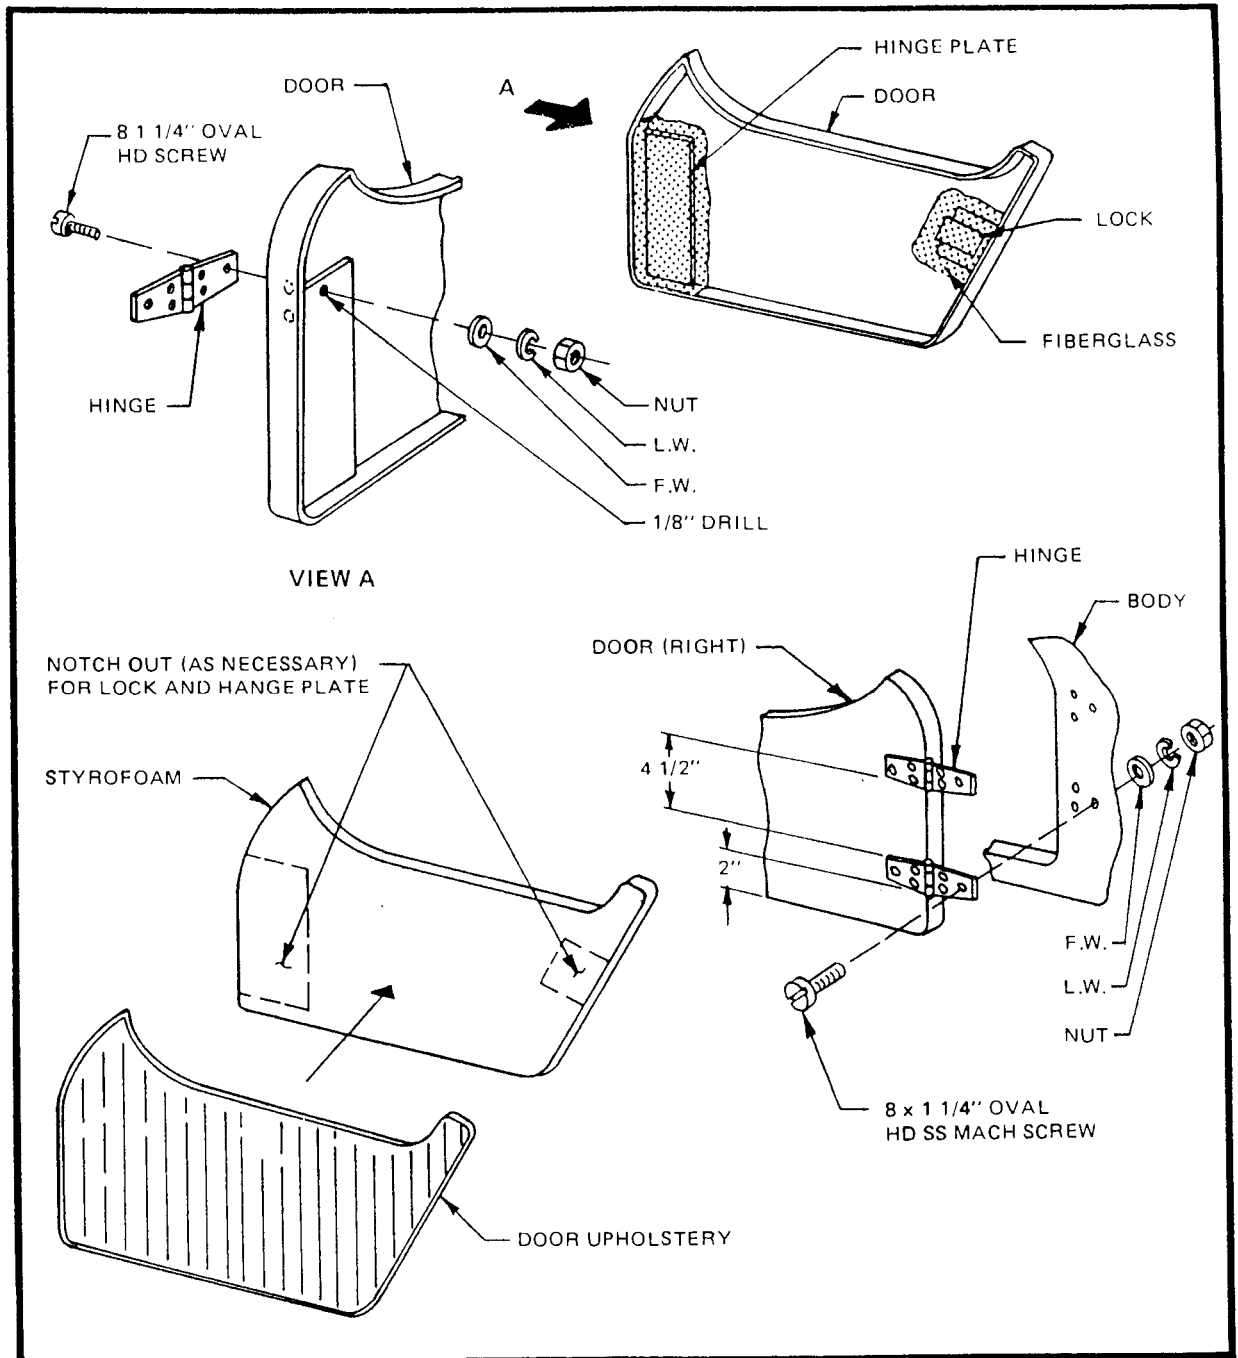

Figure 13
DOOR HINGES (Figure 13)
- Glass-in both the lock mounting plate and the hinge reinforcing plate. (Figure 13).
DOOR INSTALLATION (Refer to Figure 13)